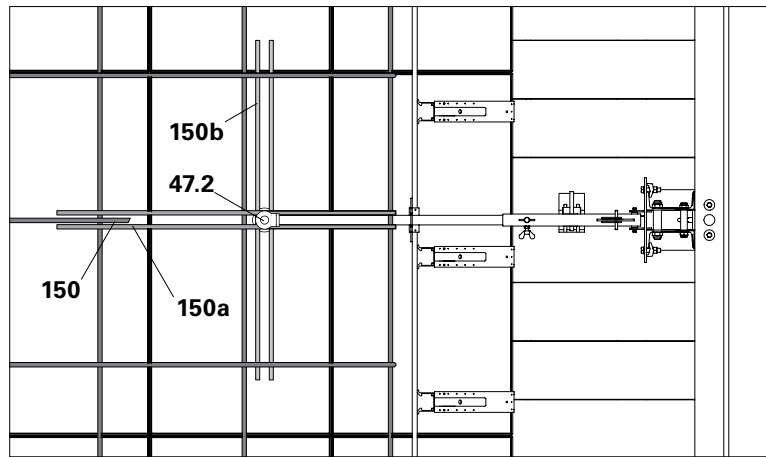

Fig. D1.04
3. Fold down Slab Anchor Template (54) and install Climbing Cone (47.5). Align Slab Anchor Template and secure.
- (Fig. D1.04 + D1.04a)